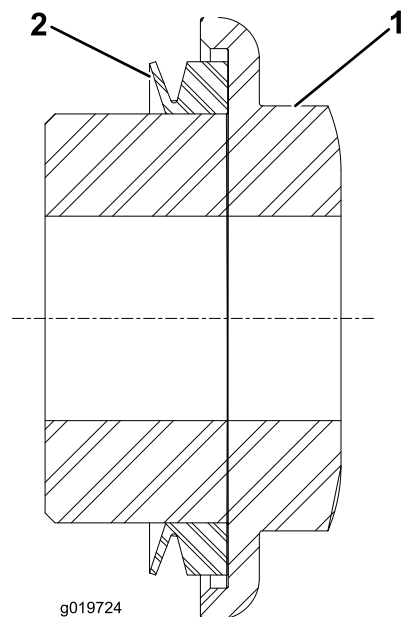

Figure 8
- Insert a V-ring onto each bearing locknut (Figure 8).